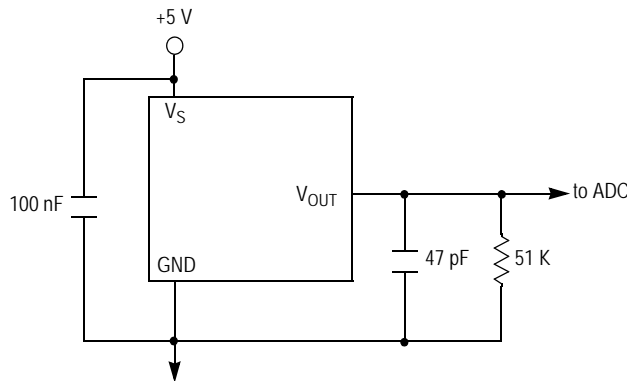

Figure 4. Recommended power supply decoupling and output filtering
**Table 3. Operating characteristics** (VS = 5.0 Vdc, TA = 25 °C unless otherwise noted, P1 > P2. Decoupling circuit shown in Figure 4 is required to meet electrical specifications.)
Figure 4 shows the recommended decoupling circuit for interfacing the output of the integrated sensor to the A/D input of a microprocessor or microcontroller. Proper decoupling of the power supply is recommended.